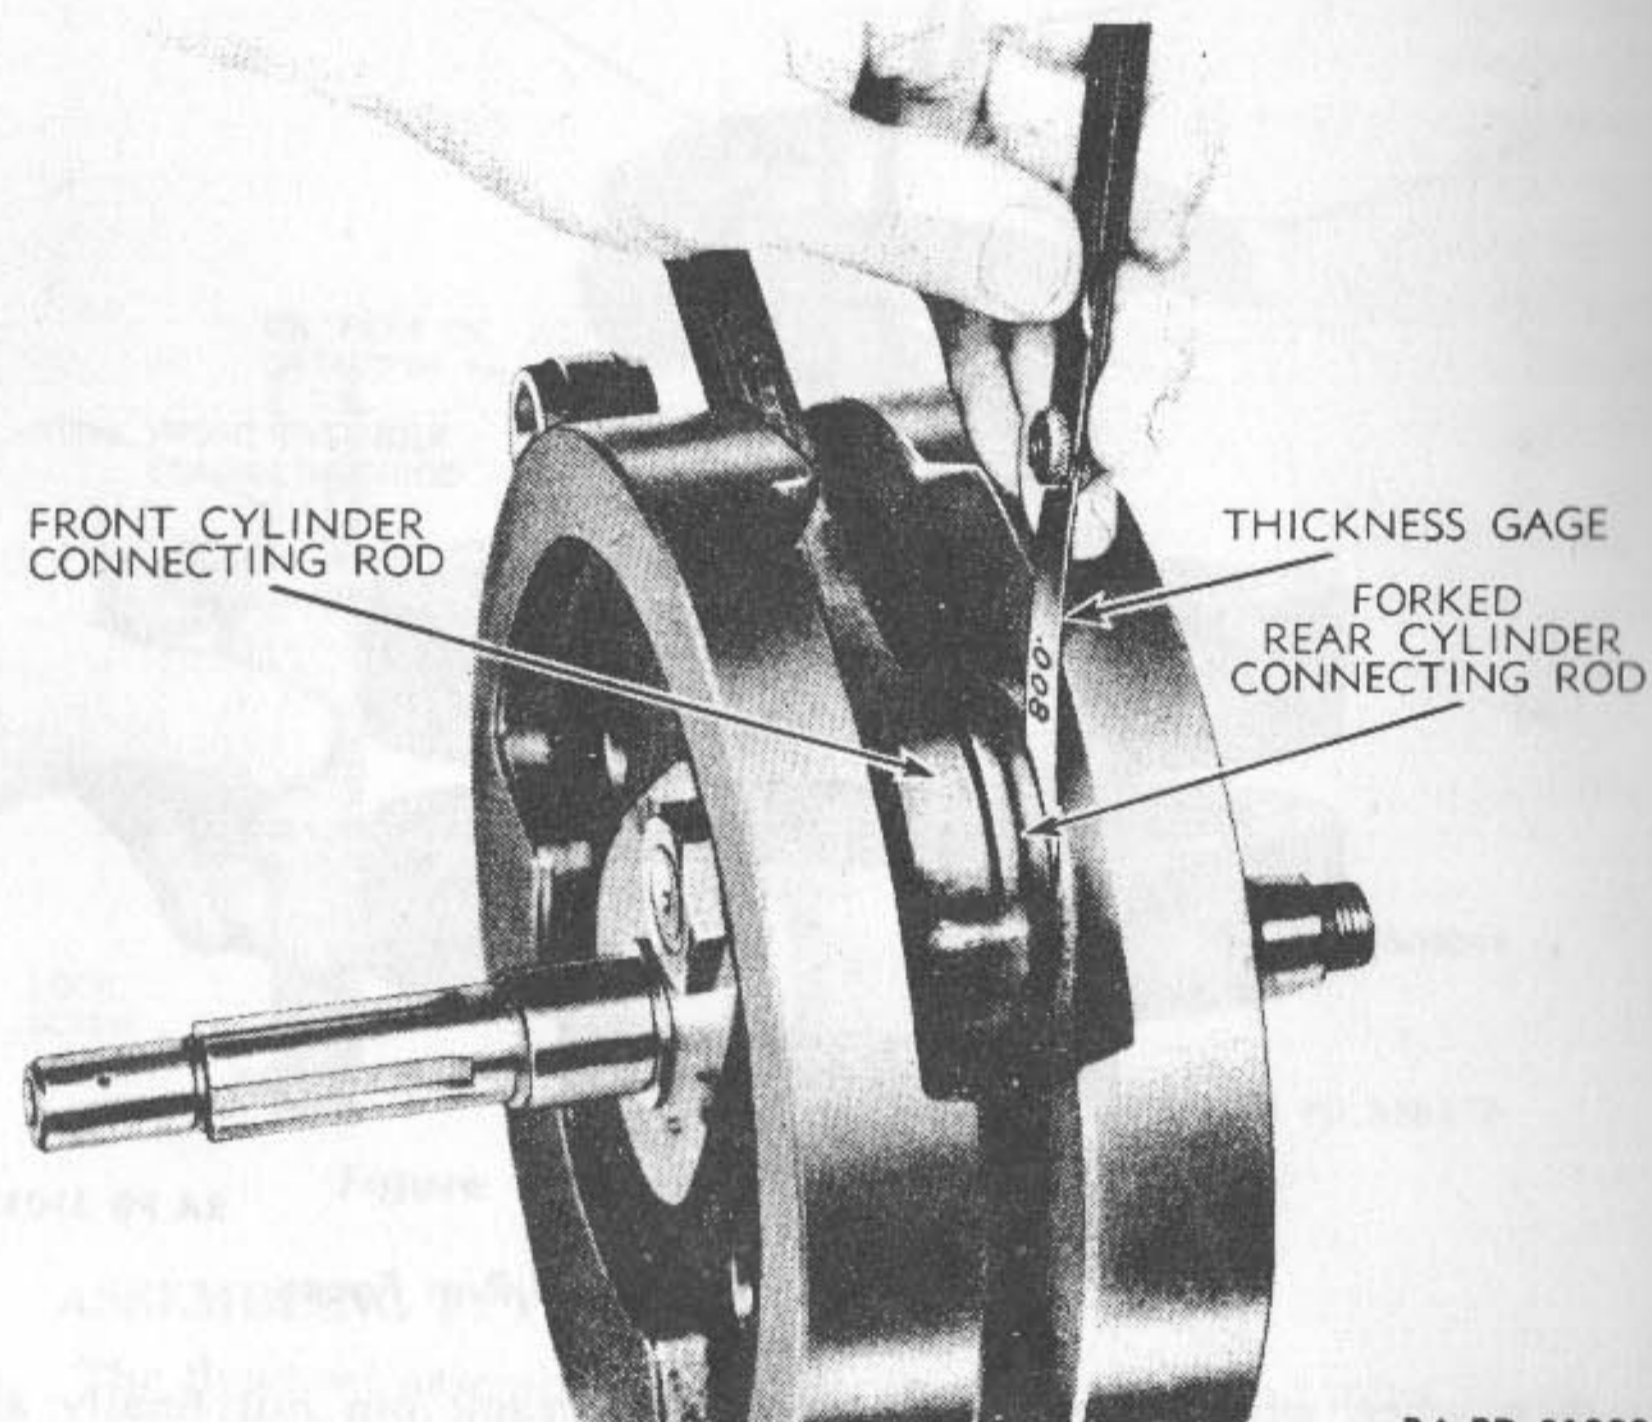

Figure 40—Checking Connecting Rod Clearances
(1) **ROD MINIMUM SIDE PLAY CHECK.** Before attempting to true flywheels, check side play between female (forked) rod and flywheel thrust washers for minimum side play (clearance). Push the rod tight against one flywheel thrust washer and check clearance between rod and the other wheel with thickness gage (fig. 40). If rod side play is less than 0.007 inch, correction must be made before continuing with assembly and truing operations. If the side play between forked rod and flywheels is less than 0.007 inch, it may be due to one of the following conditions: Flywheels and crank pins assembled with oil on tapers and crank pin nuts overtightened; new flywheel thrust